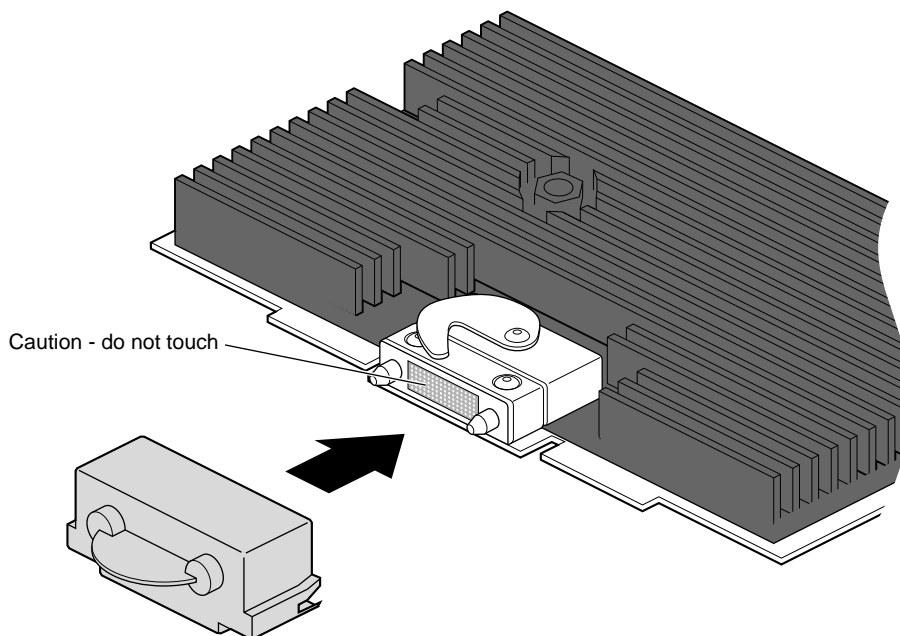

Figure 5-10 Placing a Cap on the XIO Compression Connector
5. Place a cap on the XIO graphics board compression connector. Spare caps come with the workstation. See Figure 5-10.